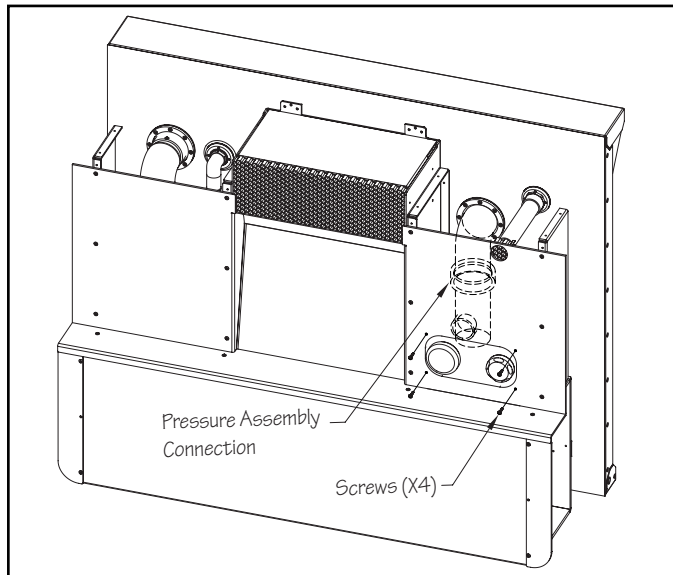

Fig. 55.4
Reposition the propulsion system housing at the front of the pool to align and attach the pressure assemblies. New holes will need to be drilled to secure the escutcheon to the right side of the propulsion system housing. Drill new holes into the escutcheon using the (4) holes in the housing (around the escutcheon) as a template. Reinstall the (4) screws. Fig. 55.4.